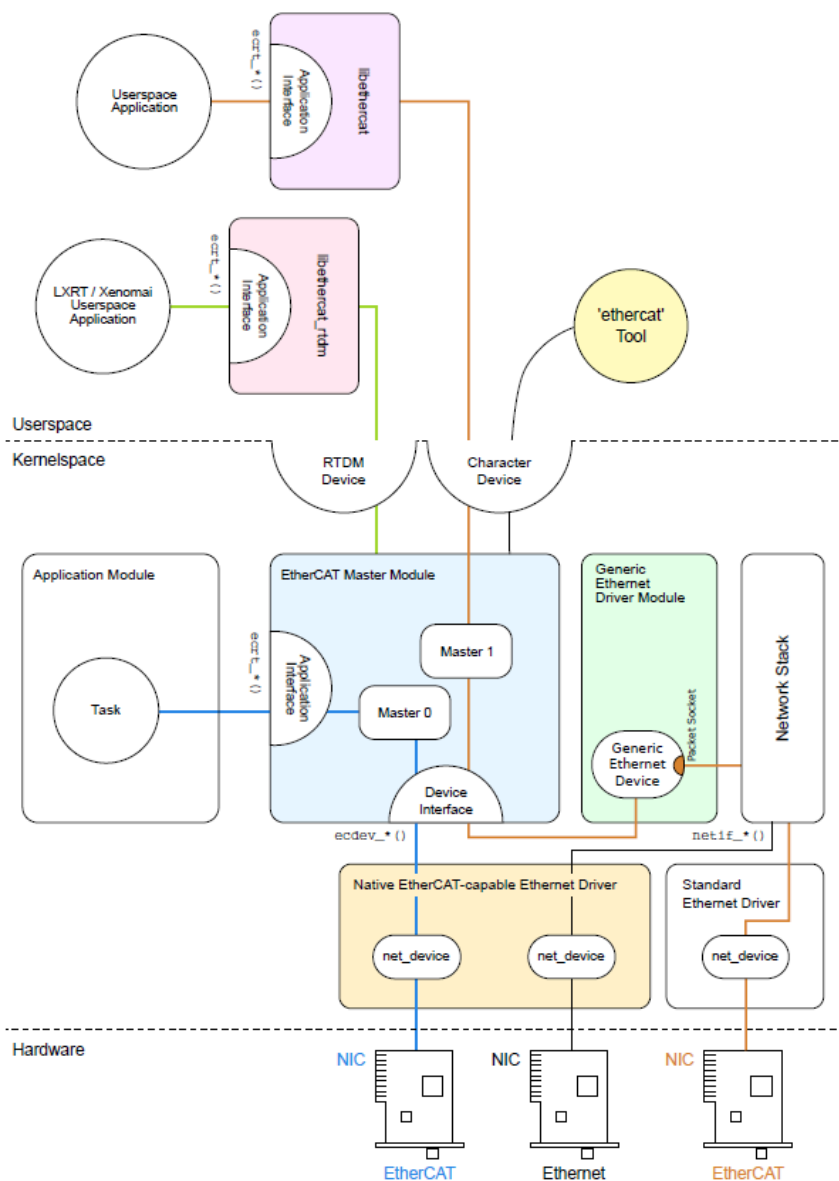

Figure 107. IGH EtherCAT MainDevice architecture
- **Application:** A program that uses the EtherCAT MainDevice (usually for cyclic exchange of process data with EtherCAT SubDevice). These programs are not part of the EtherCAT MainDevice code, but require to be generated or written by the user. An application can request a MainDevice through the application interface. If this succeeds, it has the control over the MainDevice: It can provide a bus configuration and exchange process data. Applications can be kernel modules that use the kernel application interface directly. They also include user space programs, which use the application interface via the EtherCAT library or the RTDM library. The Figure 107 shows the IGH EtherCAT MainDevice architecture.